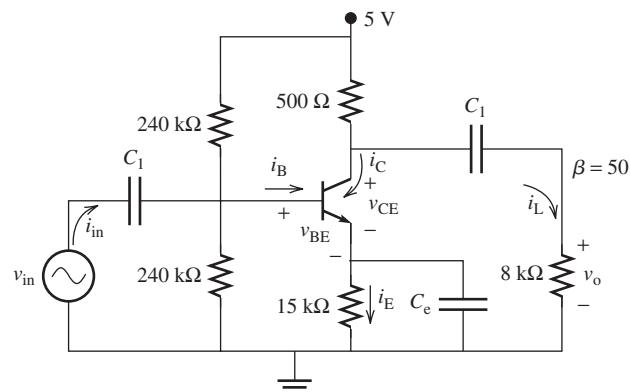

FIGURE P8.50 Circuit for Problem 8.50.
- 8.50 (H)** For the circuit shown in Figure P8.50, find A_v , A_i , R_i , and R_o .